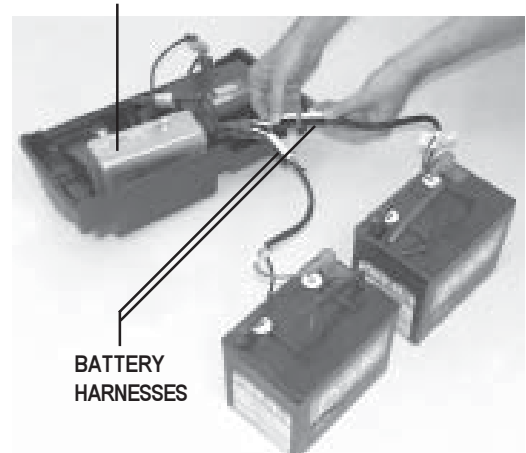

Figure 8. Utility Tray and Batteries
3. Plug both the two-pin battery harnesses into the adjoining harnesses extending from the electronic controller assembly on the utility tray. See figure 8.